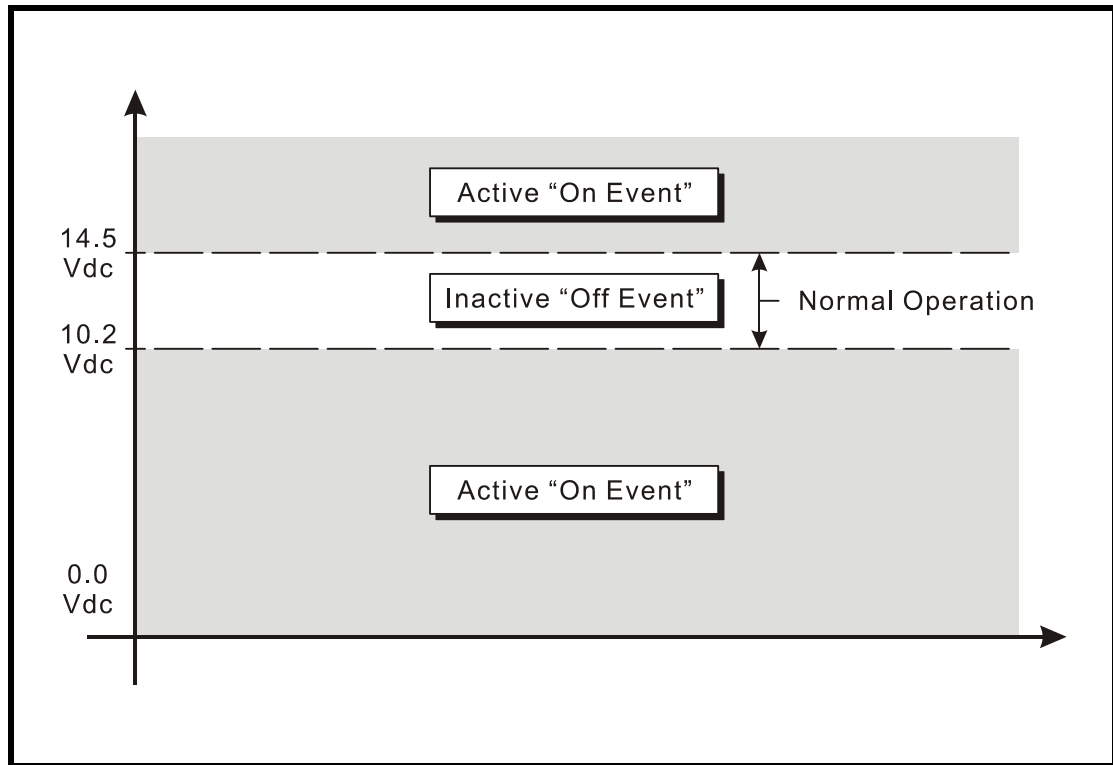

Figure 4 - Analog Input Operating Regions vs. Limit Values
Figure 4 on page 28 illustrates the relationship of the Low and High Limit Values to the Analog Input state. Each region defines the type of Event Record that is created by transitions of the input. The figure depicts an Analog Input configured to monitor a typical 12 Vdc battery source. The figure indicates that the unacceptable region includes all voltages less than 10.2 Vdc and all voltages greater than 14.5 Vdc. The unacceptable region always consists of two portions separated by the acceptable region. If the input is within the range extending from 10.2 to 14.5 Vdc the battery voltage is considered to be acceptable.
- **On:** The Digital Input voltage is in the range from 5 to 40 Vdc for a duration greater than the assigned Detection Time or is reported in a coding state. The Analog Input level is outside the acceptable range as defined by the region between the Limit Values (refer to Figure 4 on page 28). The Virtual Input evaluates to a true logic state.